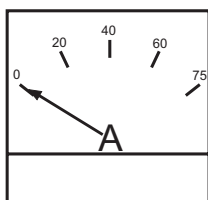

Figure 31. Ammeter (No Load)
11. The ammeter (Figure 31) will indicate zero amps with no load applied. When a load is applied, this meter will indicate the amount of current that the load is drawing from the generator's alternator.